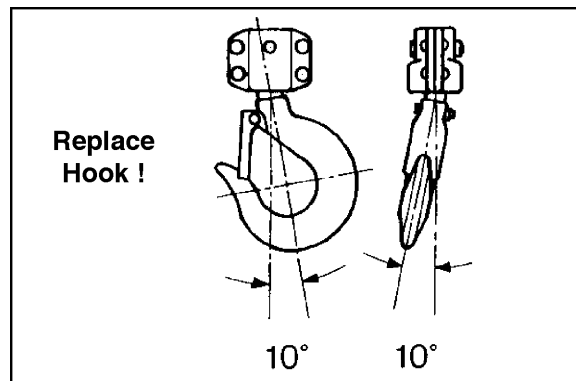

Figure 1
7. If the vertical angle at the neck of the bottom or top hook reaches  $10^\circ$ , replace the hook (see Figure 1).